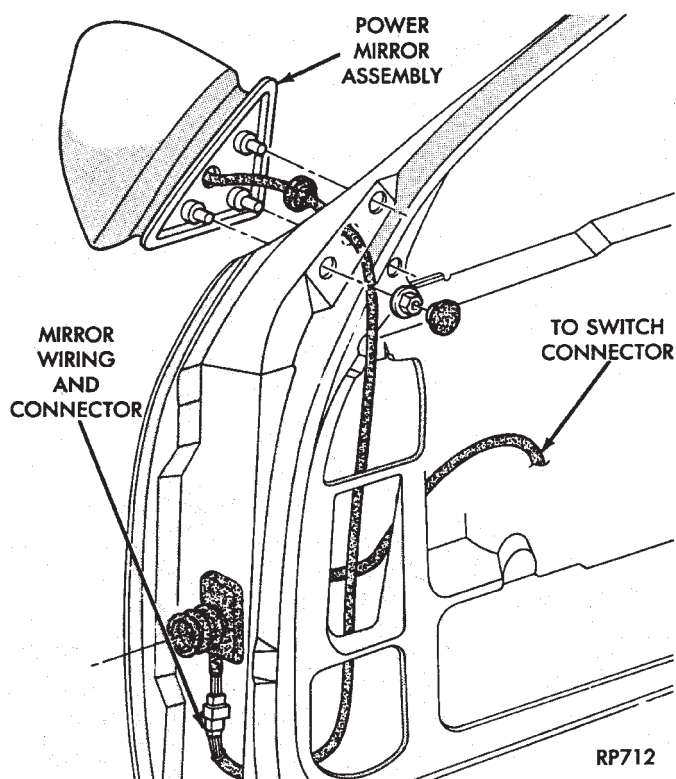

Fig. 16 Power Mirror Assembly—AJ Body
- (2) Remove door speaker and disconnect mirror wiring connectors (Fig. 16).
- (3) Remove plugs used to conceal mirror mounting nuts.
- (4) Remove mirror mounting nuts and release mirror from door.